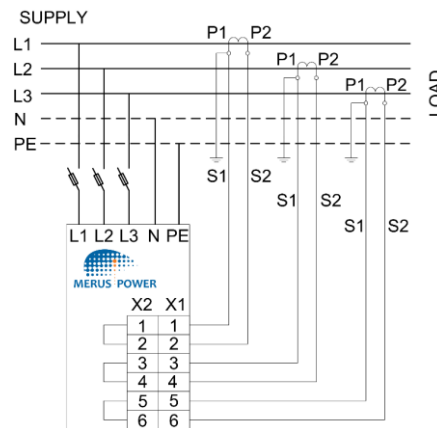
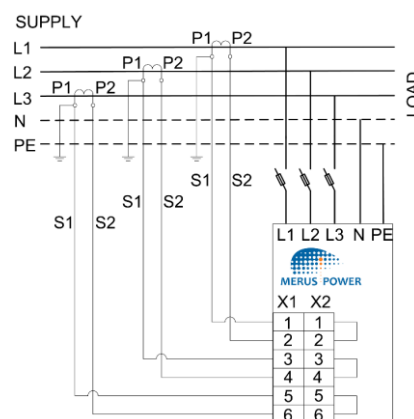

Figure 44: Open loop installation diagram
Figure 45: Closed loop installation diagram
- In the open loop connection, the current transformers are situated on the load side, as shown in Figure 44.
- In the closed loop connection, the current transformers are situated on the supply side, as shown in Figure 45.
In both cases (open or closed loop connection), the current signals are connected in the X1 terminal in the order shown in Figure 44 and Figure 45.
It is recommended that the current transformers be earthed on the current transformer side for safety purposes, as shown in Figure 44 and Figure 45. Current transformers should be earthed on the secondary side (S1 or S2) and on the same side for all current transformers.
For individual modules the connection is made as in Figure 44 and Figure 45.